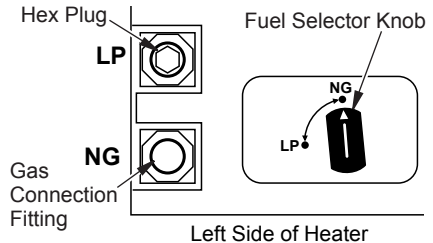

Figure 10 - Settings for Natural Gas Selection
1. Remove 2 screws from cover plate located on left side of heater (see Figure 10).
2. For NATURAL GAS, press in knob using a flat screwdriver with a blade with thickness of a quarter and turn knob clockwise until the knob locks into the NG position (see Figure 10). Fuel selection device must be locked in the NG position. Do not operate heater between locked positions!
- Remove hex plug (with wrench provided) from natural gas inlet of regulator (see Figure 10, page 13). Install hex plug into LP inlet of regulator. Install gas line into NG inlet of regulator. Use thread sealant to assure there are no leaks.